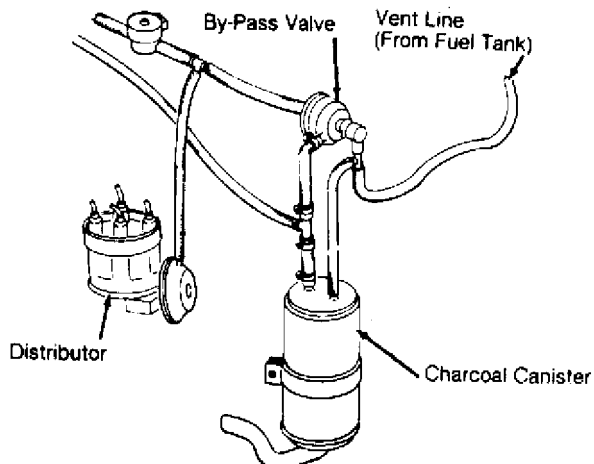

Fig. 13: Identifying Typical Fuel Evaporation System Components
1) Remove both vent hoses and vacuum hose from canister by-pass valve. See Fig. 13. Apply very low air pressure to vent hoses individually. There should be no airflow. If air passes through, replace by-pass valve.